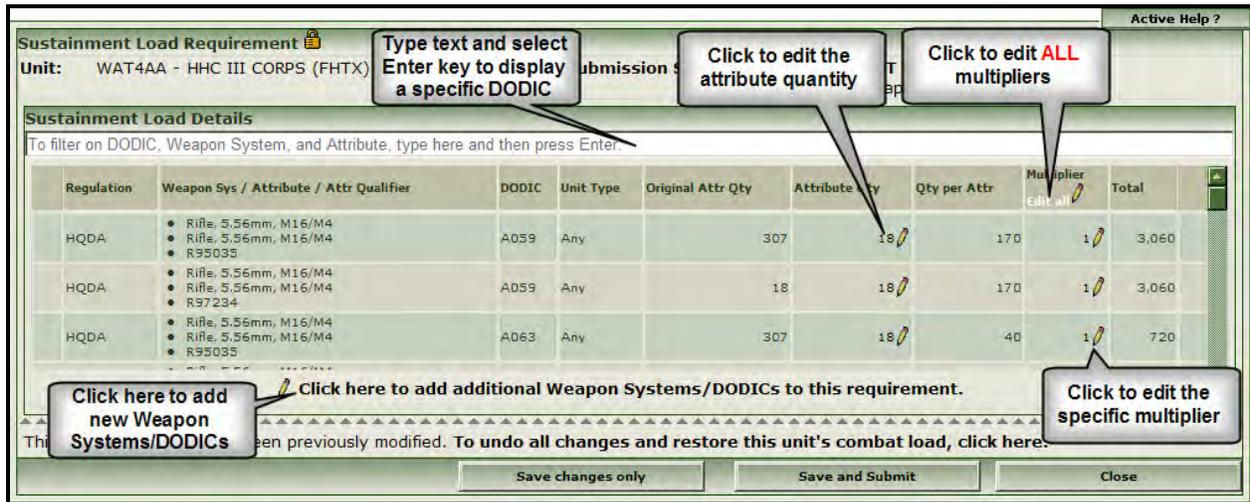

Figure 4-22. Sustainment Load Details
12. Select the **Click here to add additional Weapon Systems/DODICs to this requirement** link (see Figure 4-22).